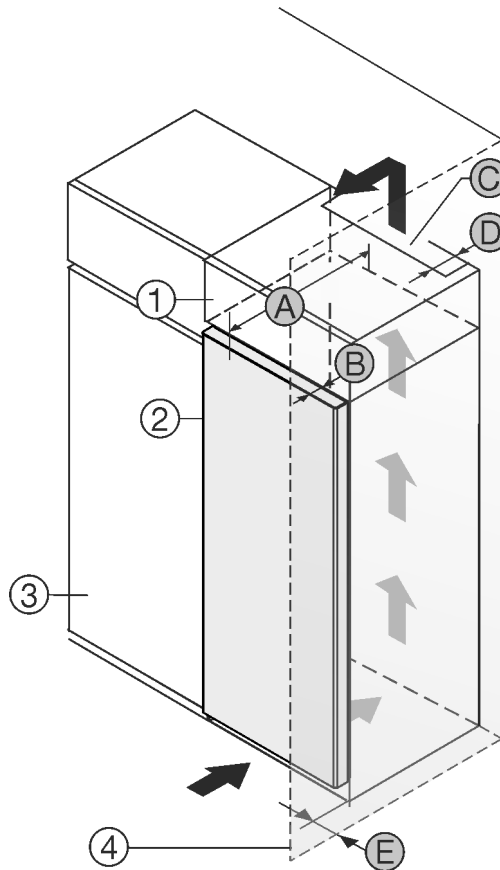

Fig. 1
- (1) Top cupboard \*
- (2) Appliance \*
- (3) Kitchen cabinet \*
- (4) Wall \*
- (A) Appliance depth \*
- (B) Door depth \*
- (C) Ventilation cross-section \*
- (D) Distance to the rear of the appliance \*
- (E) Distance to the side of the appliance \*
You can place the appliance directly beside the kitchen cabinet Fig. 1 (3).\*
There must be a ventilation shaft at the depth Fig. 1 (D) of the back of the top cupboard over the entire width of the top cupboard.\*
The cross section of the ventilation gap Fig. 1 (C) must be maintained below the ceiling.\*
If the appliance is set up with the hinges next to a wall Fig. 1 (4), the distance between the appliance and the wall must be at least 13 mm.\*
In order to be able to fully open the door, the appliance must protrude by the depth of the door Fig. 1 (B) from the front of the kitchen cabinet. Regardless of the depth of the kitchen cabinets Fig. 1 (3) and use of wall spaces, the appliance can protrude further.\*